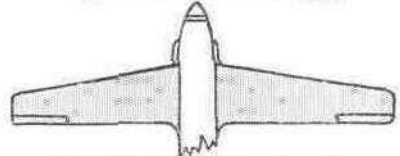

Fig. 18. Taper on leading edge only
- (d) Taper on leading edge only (Fig. 18) as in North American "Harvard."